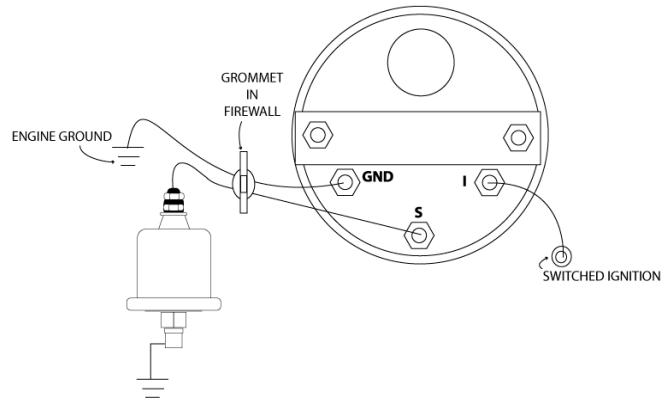

Figure 1
SENDER INSTALLATION AND WIRING (Figure 1):
5. Using 18-ga. wire, connect the signal stud of the sender to the signal terminal on the back of the gauge as seen in **Figure 1**.
1. Verify Wiring connections are correct according to the gauge wiring in **Figure 1**.